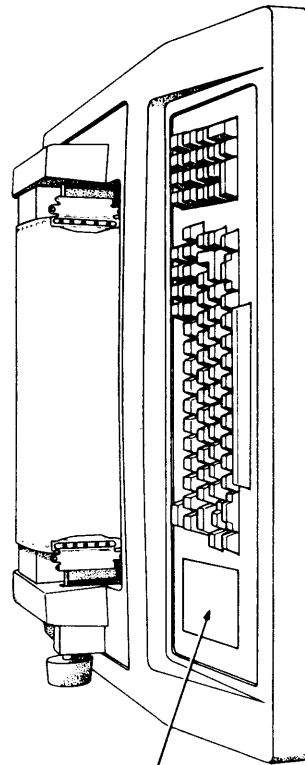

Figure 2-4 Location of LA120 SET-UP Label
11. The LA120 SET-UP label is enclosed in the package with the user guide. Fasten label to area shown in Figure 2-4.